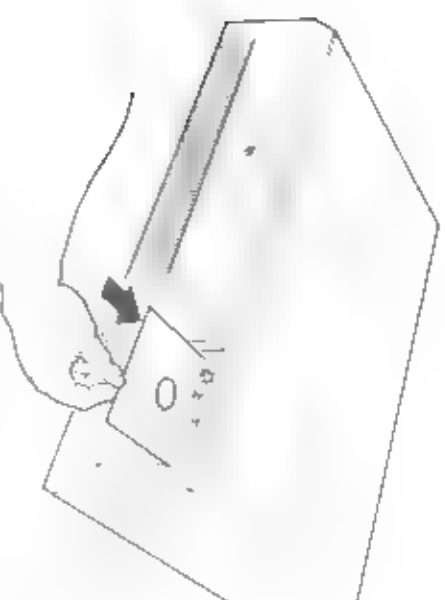

Figure 3-18 Inserting the Diagnostics Diskette
4. Insert the diagnostics diskette into the upper diskette drive (drive A:) on the system unit as shown in Figure 3-18. Detailed instructions are found in section 1.6.